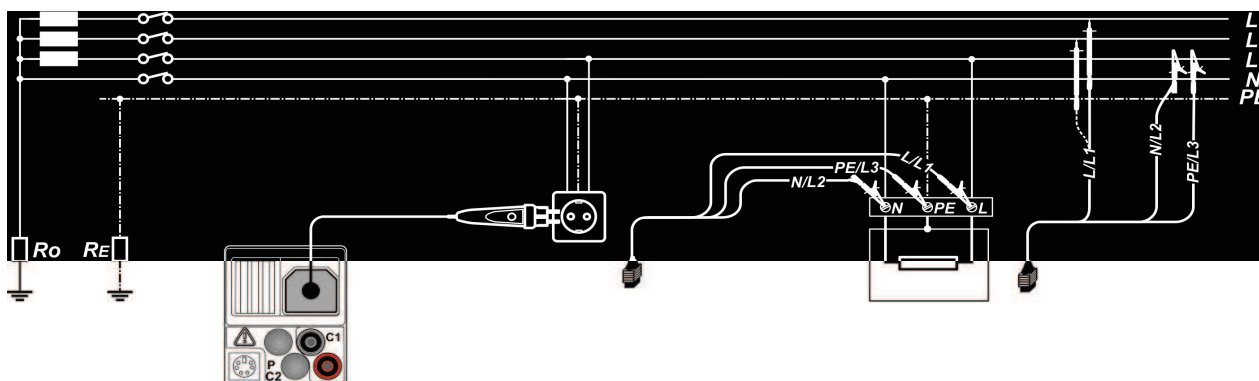

Figure 5.28: Connection of the optional "Commander" test plug (044149) and the three-wire test cable
- ❑ Connect the test cables to the test object (see figure 5.28).